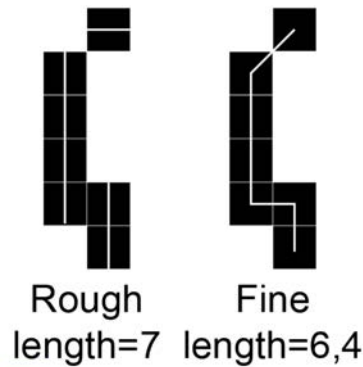

Figure 4.6. Rough and fine measurements modes.
**PARAM A4.** You need to select the lengths measurement type. There are two different routines available (fig. 4.6):